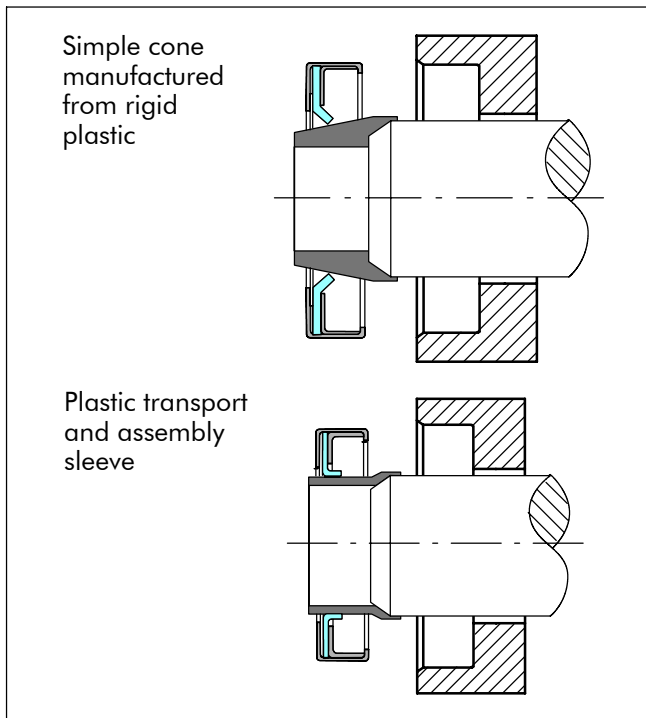

Figure 15 Assembly techniques
- Varilip® seals have widths designed in accordance with ISO 6194/1 and ISO 16589 so as to ensure square seating of the seal in the housing bore. However narrower seals can be accommodated if assembly tooling, axial clamping or a retention circlip is used. Recommended tooling aids for satisfactory seal assembly are shown in figure 15 and 16.